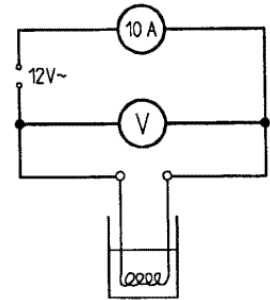

Fig. 2
- Current and voltage can be measured simultaneously. Due to the low resistance of the heating coil, the circuit shown in Fig. 2 should be used.